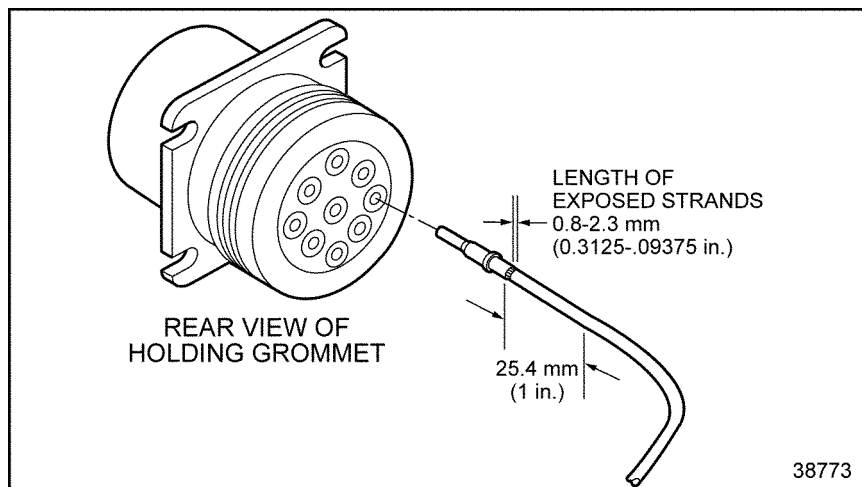
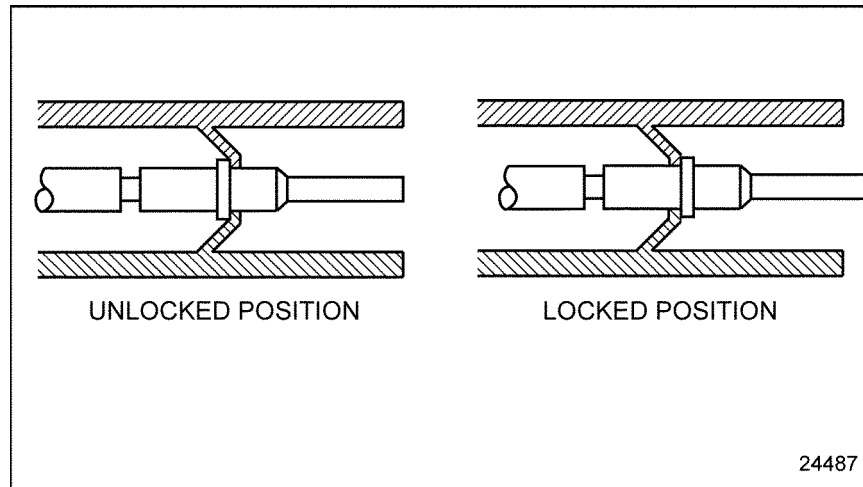

Figure 16-28 **Pushing Terminal Into Grommet**
Figure 16-29 Locking Terminal Into Connector
- Grasp the terminal approximately one inch behind the terminal crimp barrel. Hold the connector with the rear grommet facing you. See Figure 16-28.
6. Push the terminal into the grommet until a positive stop is felt. See Figure 16-28. A slight tug will confirm that it is properly locked into place. See Figure 16-29.